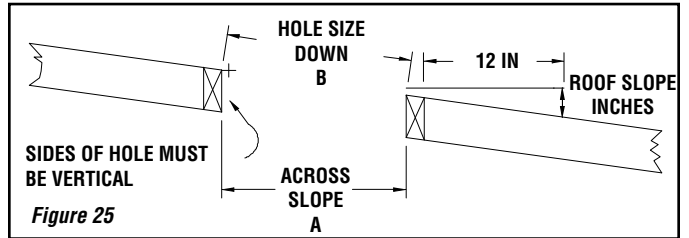

Figure 25
Step 1. Situate the chimney in a convenient location as near as possible to the appliance outlet. Cut and frame a hole in the roof for the support. The sides of this hole must be vertical (figure 25) (see table 3 on page 3).